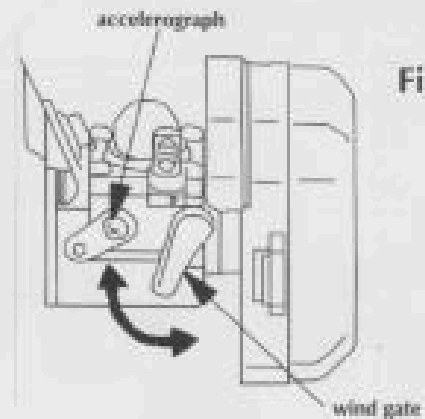

Fig. 2
- 4.2 Shut down the wind gate (Fig. 2), and turn the accelerograph to the position that spaces 1/4-1/3 place of opening.
- 4.4 Adjust the wind gate (Fig. 2) to the place which spaces 1/4 position of opening position.